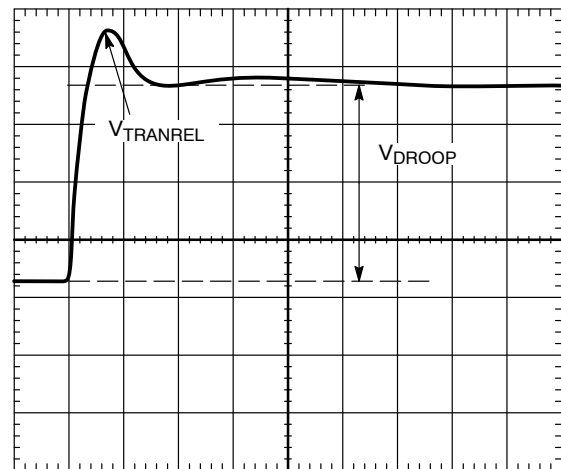

Figure 16. Transient Setting Waveform
20. For load release (see Figure 16), if $V_{TRANREL}$ is larger than the allowed overshoot, there is not enough output capacitance. Either more capacitance is needed, or the inductor values need to be made smaller. When changing inductors, start the design again using a spreadsheet and this tuning procedure.